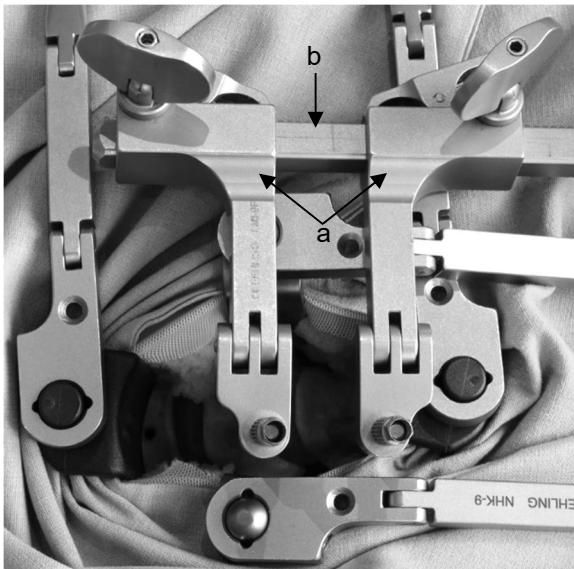
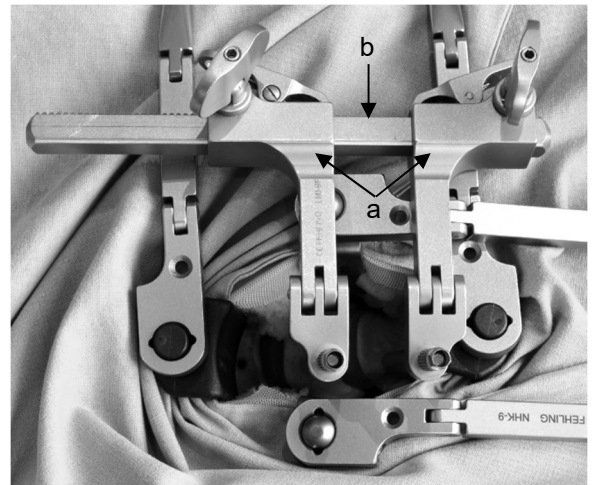

Fig. 13a
Fig. 13b
9. Both retractor arms (a) can be moved along the entire toothed rack (b). This makes full use of the toothed rack possible and allows having different positions of the retractor arms, as the retractor arms can be positioned centrally (Fig. 12b), at one end of the toothed rack (Fig. 13a) or at the other end (Fig. 13b).